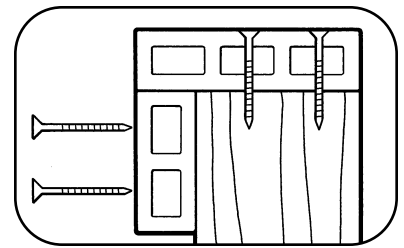

Fig. 32
- Place one Side Rail perpendicular to the Top Rail at each Rail section, making sure that the top of the Side Rail is flush with the side of the Top Rail (Fig. 32).
- Pre-drill and place two 2-1/2" stainless steel or galvanized deck screws 1" from the end of each Side Rail and fasten into each 4x4 post – be sure to level and square the top Side Rail. There should be a minimum 1/16" gap between each Side Rail to allow for expansion and contraction (Fig. 32).